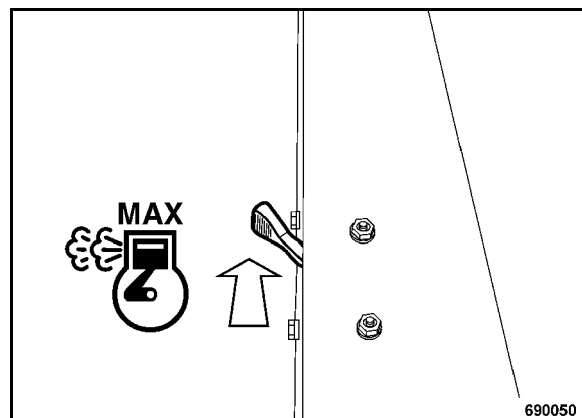

Fig. 14
- Set the throttle lever (Fig. 14) to position "MAX".